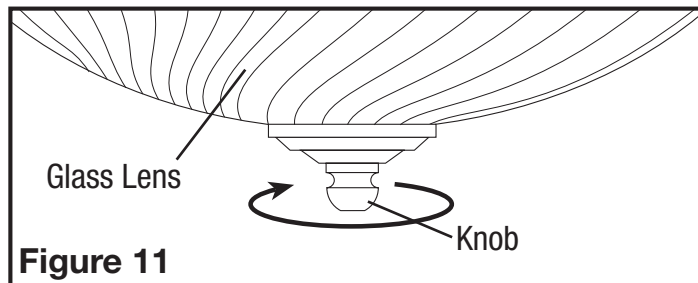

Figure 11
2. Remove glass light lens from grill by unscrewing knob at the top of lens (**Figure 11**).
- Changing the Light Bulb:** Disconnect power to the unit. Remove glass light lens from grill by unscrewing knob at the top of lens (**Figure 11**). Replace light bulb(s) with 60 watt maximum, type A19 medium base incandescent bulb(s).